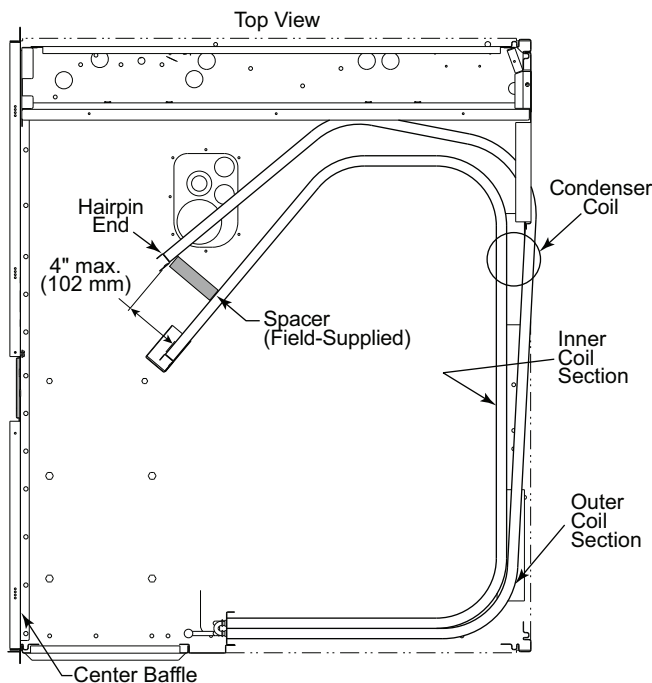

Fig. 18 — Separating Coil Sections
- Insert a spacer (field-supplied) between the tube sheets to hold the coils apart. See Fig. 18.